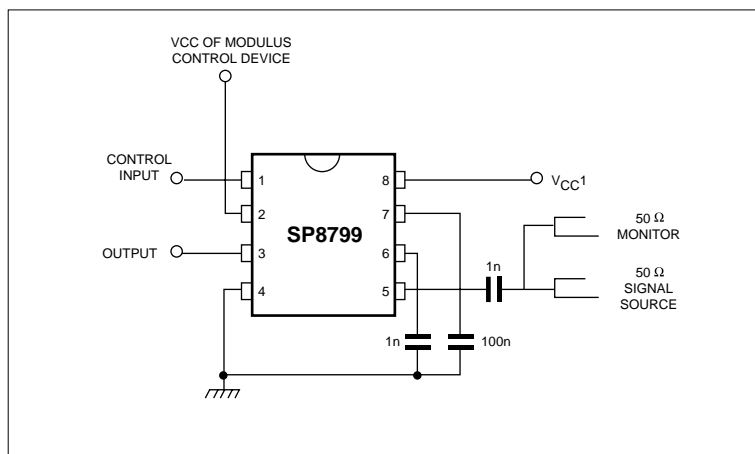

Figure 6 : Toggle frequency test circuit
2. The test configuration for dynamic testing is shown in Fig.6.